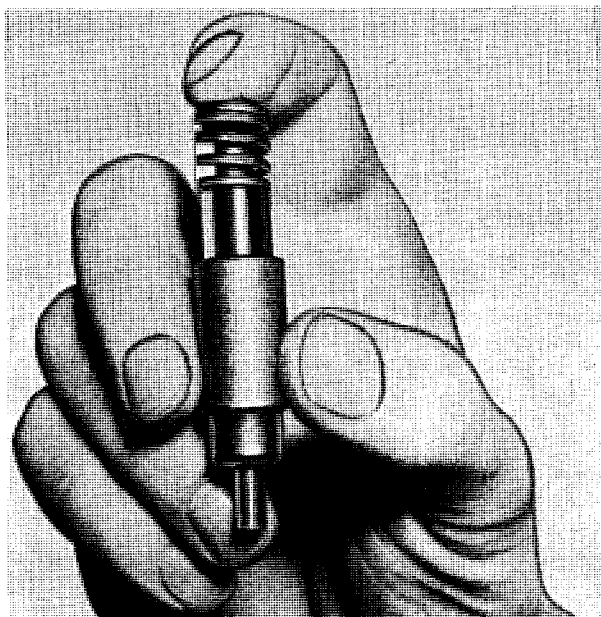

Figure 6-25. Checking Hydraulic Plunger
b. Hold the hydraulic cylinder between the thumb and middle finger in a vertical position with one hand; then place the plunger in position so that it just enters the cylinder (figure 6-25).